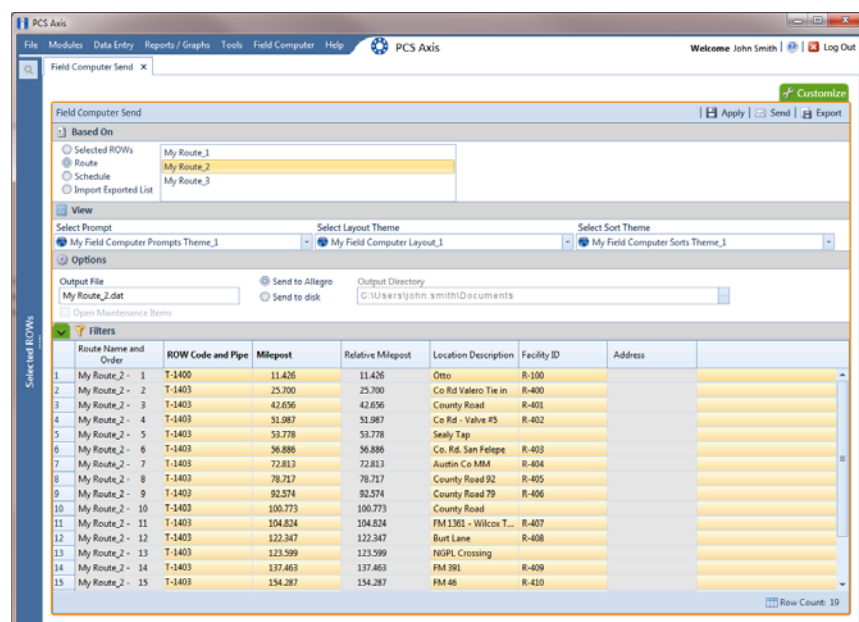

Figure 13-24. Field Computer Send Based on Route
- a Click the **Route** option and then select a route in the selection box (Figure 13-24, page 543).